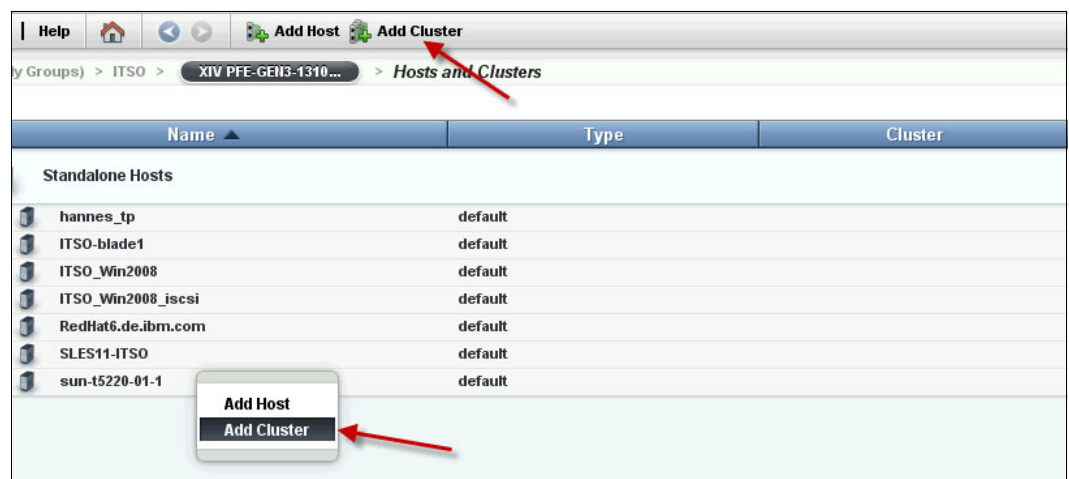

Figure 10-7 Creating a cluster group
1. Create a cluster group (Figure 10-7).